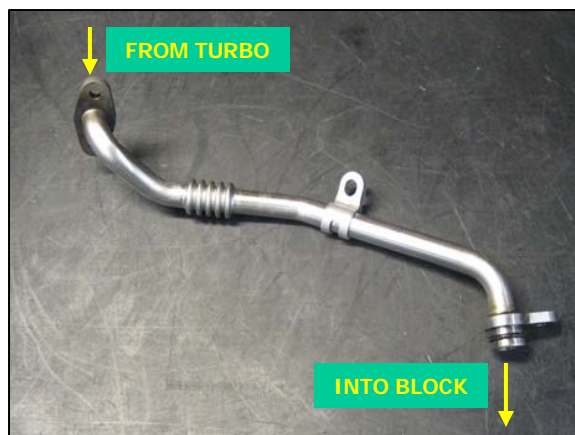

Fig. 22
25. Locate the turbocharger oil drain line. See figure 22 (shown off of vehicle for clarity). It drains into the passenger side rear of engine block, below oil feed banjo bolt. Remove single bolt securing clamp to engine block. Remove bolt near middle of line securing it to engine block. Pull oil drain line out of block but leave attached to turbocharger. Ensure the rubber o-ring is present and did not break and fall into oil pan. Clamp bolt will be reused. New oil drain line and o-ring included in kit. Middle support bolt will not be reused (2 bolts, 10mm wrench).